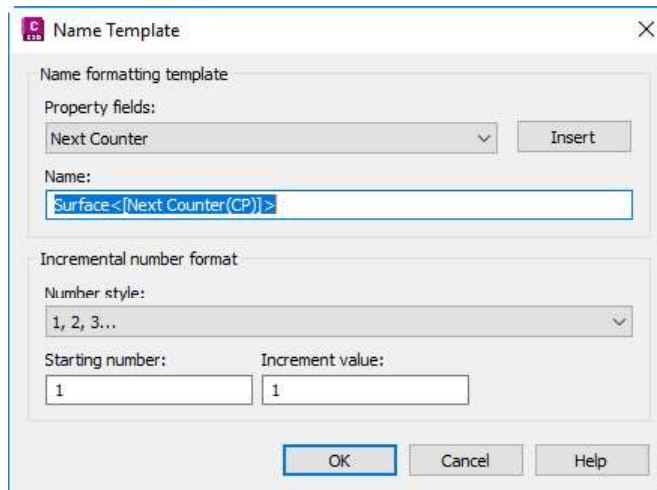

Figure 3-58 The *Name Template* dialog box
2. Click in the **Value** field of the **Name** property and choose the **Browse** button displayed on the right; the **Name Template** dialog box is displayed, as shown in Figure 3-58.